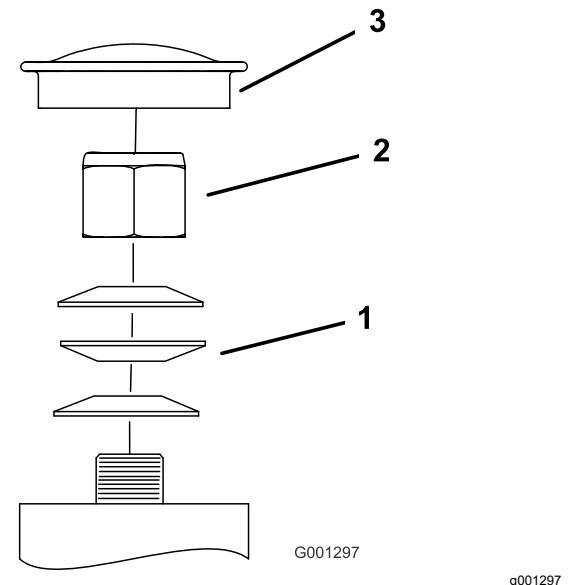

Figure 57
3. Remove the dust cap from the caster and tighten the locknut (Figure 57).
4. Tighten the locknut until the spring washers are flat, and then back off 1/4 turn to properly set the preload on the bearings (Figure 57).
**Important:** Make sure that the spring washers are installed correctly as shown in Figure 57.
5. Install the dust cap (Figure 57).